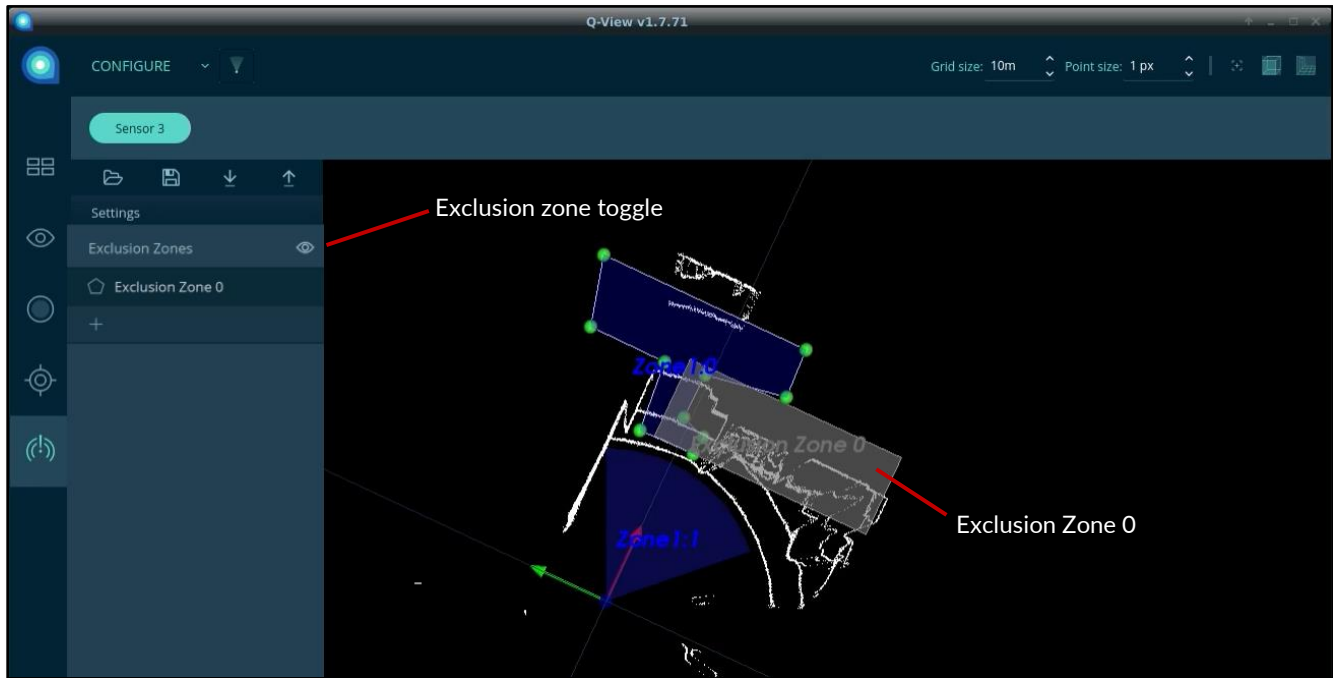

Figure 80. QORTEX Aware: Visualizer with Exclusion Zone
Creating Exclusion zones has the same zone types as Evaluation Fields. Exclusion zones apply across all Evaluation Fields. Exclusion zones display as **gray** areas. Objects in the gray zone are not detected. See Figure 80. QORTEX Aware: Visualizer with Exclusion Zone.
2. Click the eye icon  on the Exclusion Zone tab. See Figure 80. QORTEX Aware: Visualizer with Exclusion Zone.